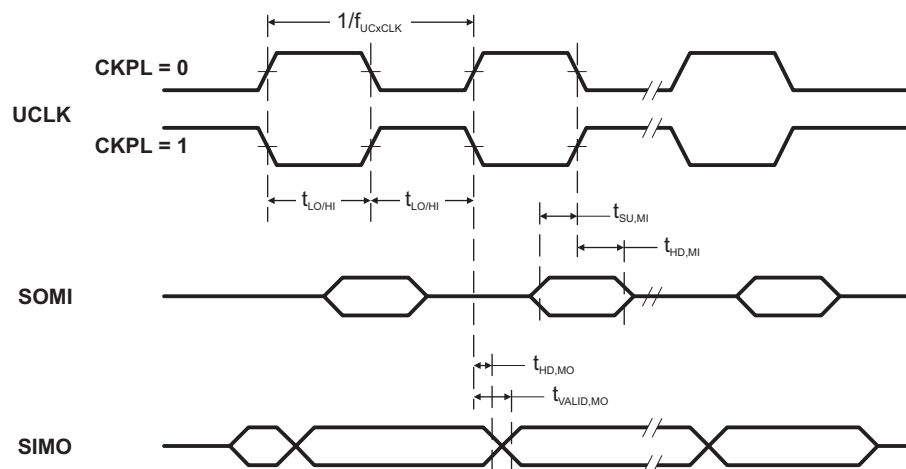
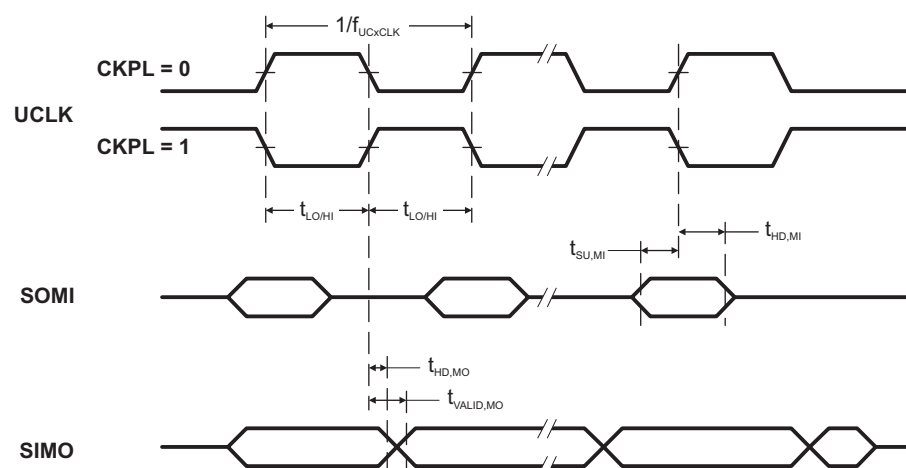

Figure 11. SPI Master Mode, CKPH = 0
Figure 12. SPI Master Mode, CKPH = 1
(see Note ⁽¹⁾, Figure 11 and Figure 12)
- (1) f_{UCxCLK} = 1/2t_{LO/HI} with t_{LO/HI} ≥ max(t_{VALID,MO}(USCI) + t_{SU,SI}(Slave), t_{SU,MI}(USCI) + t_{VALID,SO}(Slave)). For the slave's parameters t_{SU,SI}(Slave) and t_{VALID,SO}(Slave) see the SPI parameters of the attached slave.
- (2) Specifies the time to drive the next valid data to the SIMO output after the output changing UCLK clock edge. See the timing diagrams in Figure 11 and Figure 12.
- (3) Specifies how long data on the SIMO output is valid after the output changing UCLK clock edge. Negative values indicate that the data on the SIMO output can become invalid before the output changing clock edge observed on UCLK. See the timing diagrams in Figure 11 and Figure 12.
(2) Specifies the time to drive the next valid data to the SOMI output after the output changing UCLK clock edge. See the timing diagrams in Figure 11 and Figure 12.
(3) Specifies how long data on the SOMI output is valid after the output changing UCLK clock edge. See the timing diagrams in Figure 11 and Figure 12.